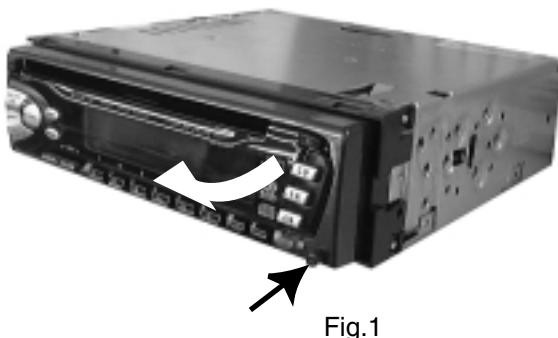

Fig.1
■ Removing the front panel unit (See Fig.1)
- The front panel unit and the front chassis (Refer to Fig.1 and 2)